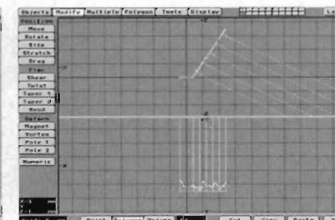

Figure 9
Once you have Made, Named and Saved the panels, it's time to shape them into the form of a pencil. Select all the panels except for the leftmost one. Hit (y) to rotate, then (n) for numeric. Enter (Y) for the axis, (60) for the angle and (X = 0.2, Y = 0.0, Z = 0.0) for the center. Make sure that your units are set to (cm), then press OK (Enter) to rotate the five panels to the left (Figure 9). Guess what? You now need to do this rotation thing four more times, so go to it! Remember to pick one less panel each new time—e.g., 8, then 6, and so on to the end. Use the following entries for your axis center, remembering to use 60 degrees each time you rotate.